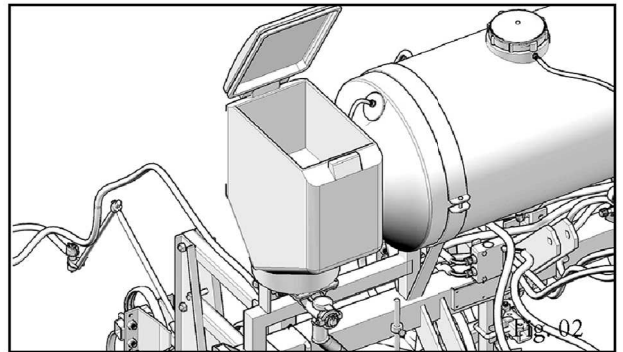

Fig. 02
- Completo (deposito de inox) *Fig. 02*;
- Complete (stainless deposit) Fig 02;